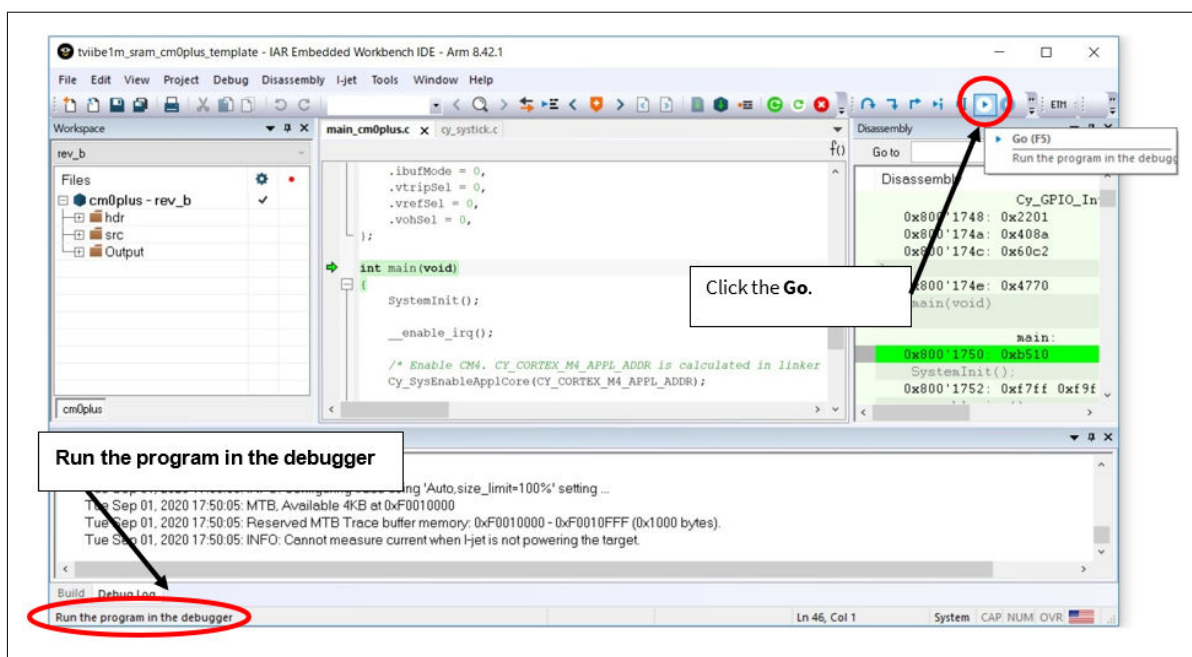

Figure 25 Execution on RAM
4. Click the **Go** icon as shown in Figure 25.